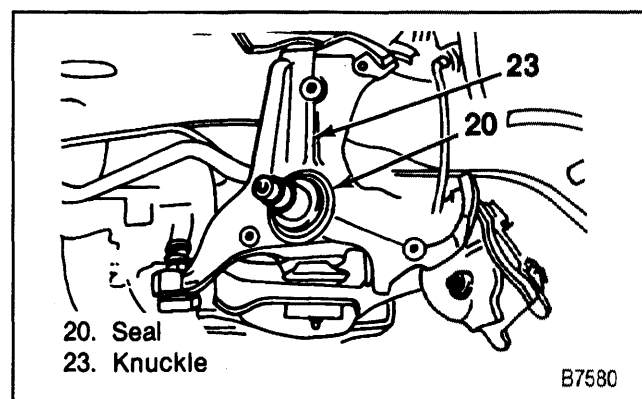

Figure 22—Locating the Seal on the Knuckle
1. Upper and lower ball joints into the knuckle (23). Refer to "Ball Joint Replacement."
2. Knuckle seal (20) (figure 22).
3. Splash shield (25) to the knuckle (23).